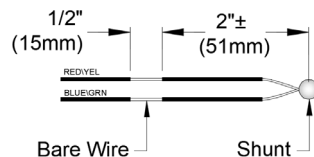

Figure 5 – Strip GCA Wire Leads
4. With the GCA wire lead shunt intact, strip about ½ in. (15mm) of insulation from the red and blue leads approximately 2 in. (51mm) back from the shunt (Figure 5).